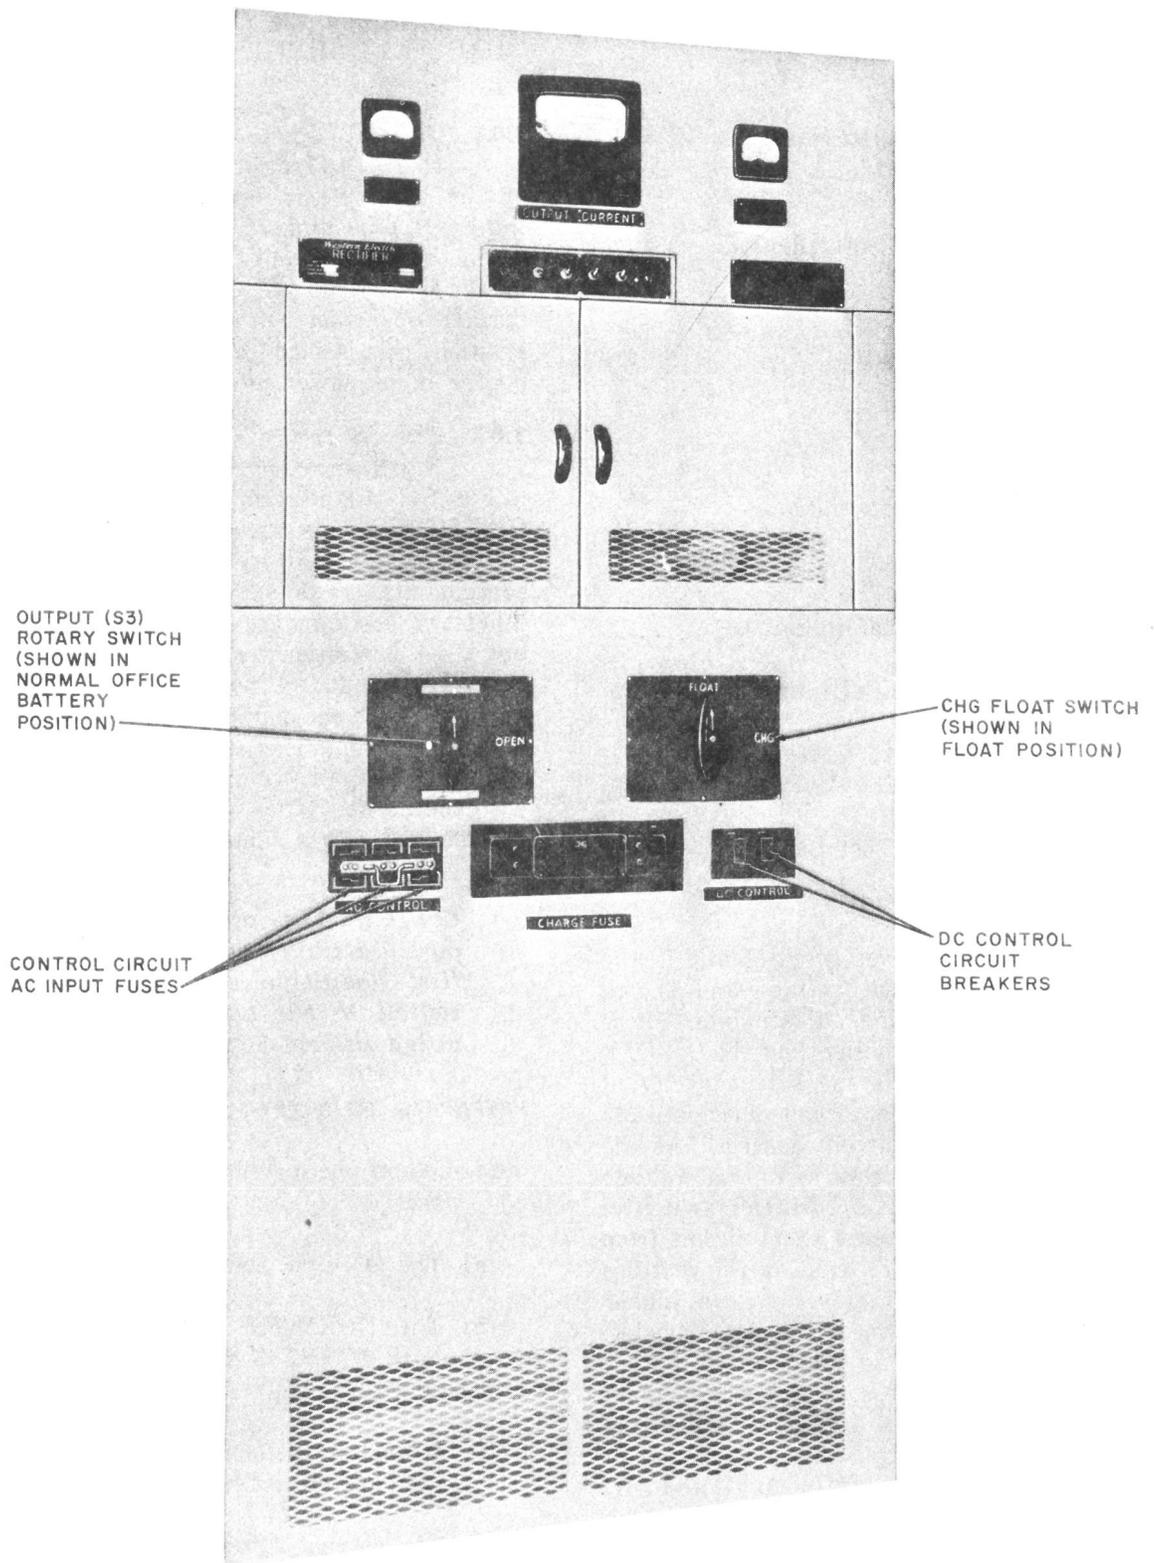

Fig. 2—J86249A, B, or C Rectifier With J86249E L1 Electronic Control
3.03 The S3 rotary switch, marked OPEN (see Fig. 2) and designated OUTPUT rotary switch in Fig. 3, is a 3-position switch. The center position OPEN disconnects the negative charging lead from the associated battery to remove battery from components while servicing the rectifier. The other two positions are not marked on the rectifier, but the top position connects the rectifier negative charging lead to the normal office batteries. The bottom position usually connects the rectifier negative charging lead to the normal office batteries and the emergency end cells, which are in series with the normal office batteries, for charging after a prolonged power failure.